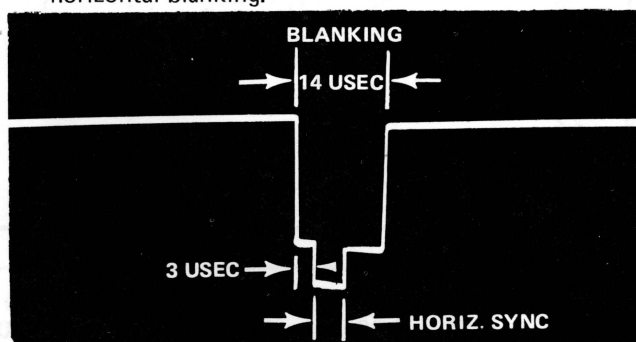

FIGURE 1
2. Adjust Blanking Width Control, R43, for a blanking pulse, 14 usec. (+1 usec. -0 usec.) wide. (See Figure 1.)